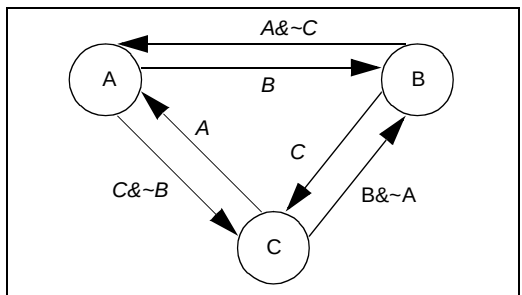

**Figure 20-2. State diagram of round robin arbitrator with 3 requesters.**
**Figure 20-2** pictures a state diagram that allocates fair arbitration with 3 requesters.